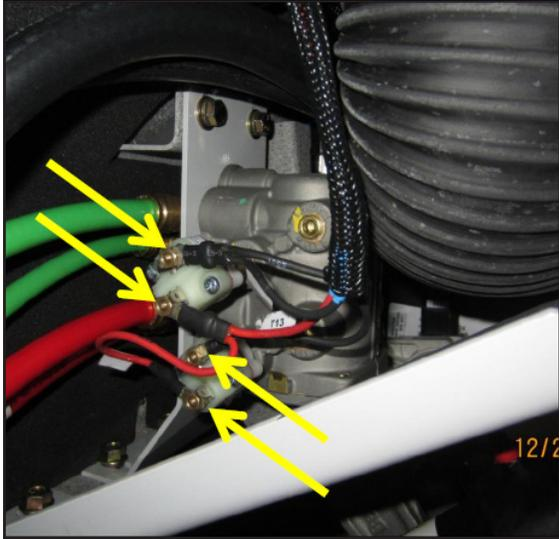

Figure 20: Reconnect the electrical harness by installing four nuts on both stop light switches on the left side of the treadle valve.
28. Reconnect the electrical harness by installing four nuts on both stop light switches on the left side of the treadle valve (it is reconnected in four places) (Figure 20).